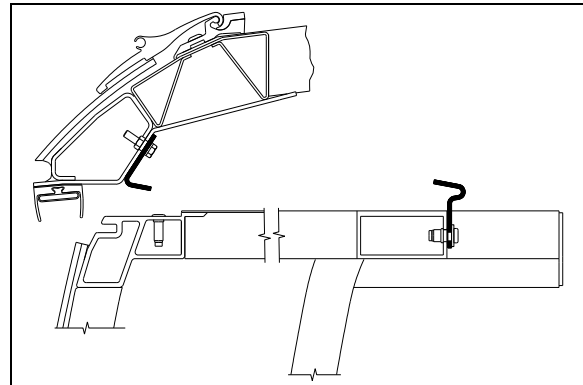

FIGURE 32: SLIDE-OUT 2" INSIDE – UPPER PART
5. Using the manual override procedure, move the slide-out 2" inside the vehicle, so the seal is accessible from outside (Figure 32).
6. Once completed, use the manual override procedure to extend the slide-out to reinstall the exterior extrusion. Apply appropriate sealant on the exterior extrusion screws and between the extrusion, the roof and the edges to prevent water infiltration (Figure 32).